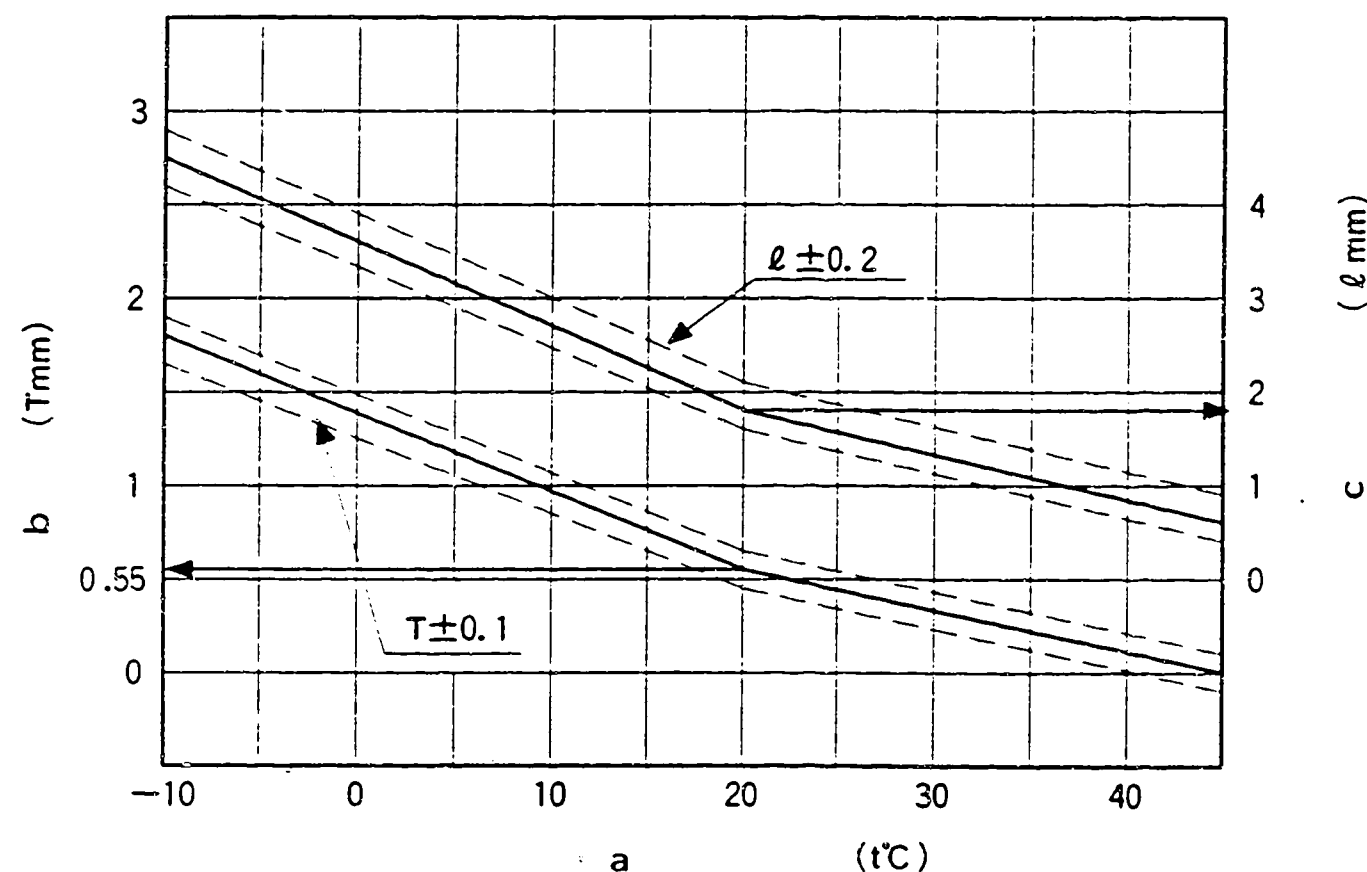

Figure 34
- 1) Calculate the timer stroke from Fig. 34 according to the atmospheric temperature at the time of adjustment.
- 2) Adjust using the screw (1) so that the timer stroke is as calculated in step 1.
- 1) Calculate the block gauge dimension  $l \pm 0.05$  mm from (Fig. 34) according to the atmospheric temperature at the time of adjustment.